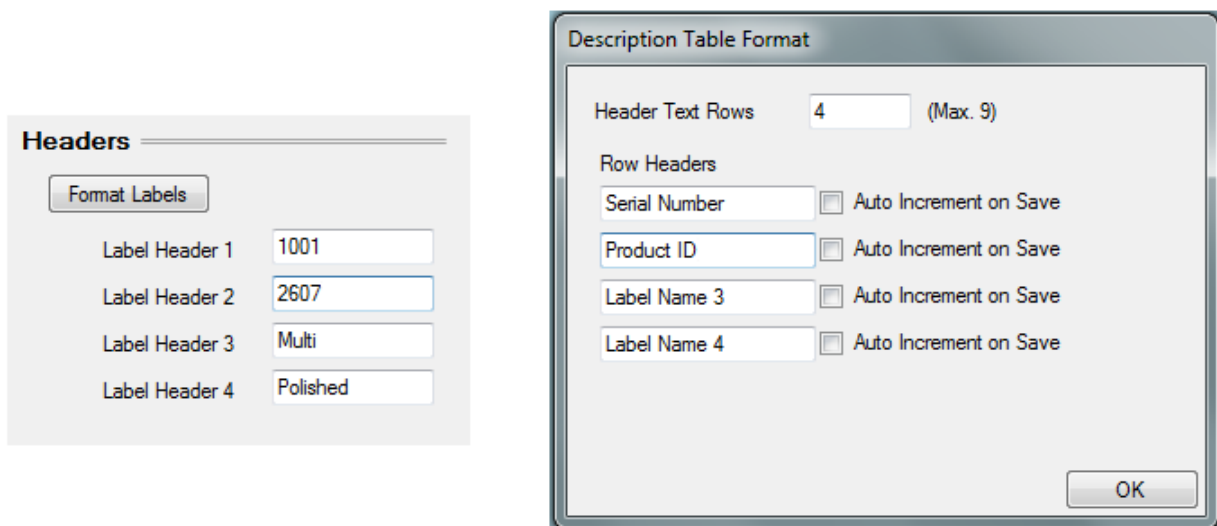

Figure 5.3: The label headers as they appear on the main screen (left) and the Description Table Format window used to edit them (right).
- The Description Table Format window (see Fig. 5.3) contains a text box for specifying the number of Header Text Rows, up to a maximum of 9. Enter in the desired value.